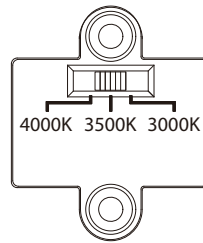
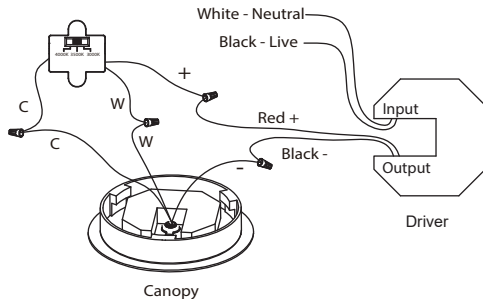

Fig. 2 Wire Diagram
Fig. 3 Wiring
- (ii) Due to limited space within the canopy, shorten the cable as necessary to make the installation easier. Make sure to identify and label all the wiring properly before any trimming/shortening of cables. (Fig. 2)
CONNECTING THE WIRES (Fig. 2/Fig. 3)
7. Connect the driver's input/output wires to junction box wires and 3CCT switch wires as shown in Fig. 2, make sure that all wire connectors (A) (C) are secured. Connect the fixture ground to house ground, which will be either a green or bare copper ground wire. After wires are connected, tuck them carefully inside the junction box.
8. Secure the fixture by mounting the canopy to the ceiling plate. Slide the canopy in the direction of the notch until it latches in place. Fasten the canopy to the ceiling plate using the anti-rotation screw (B).